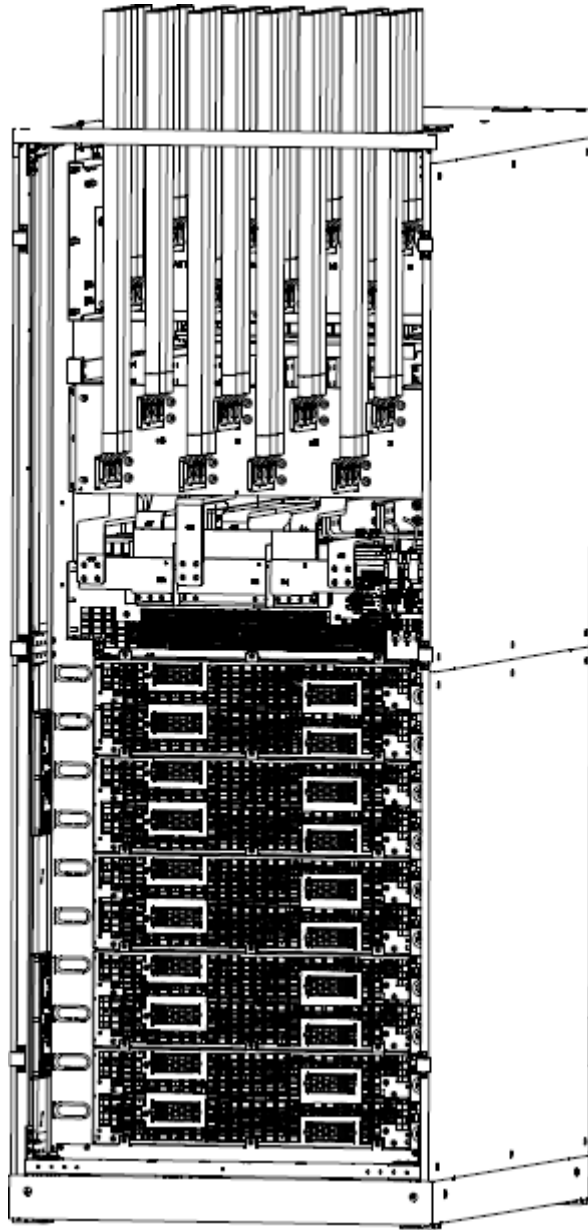
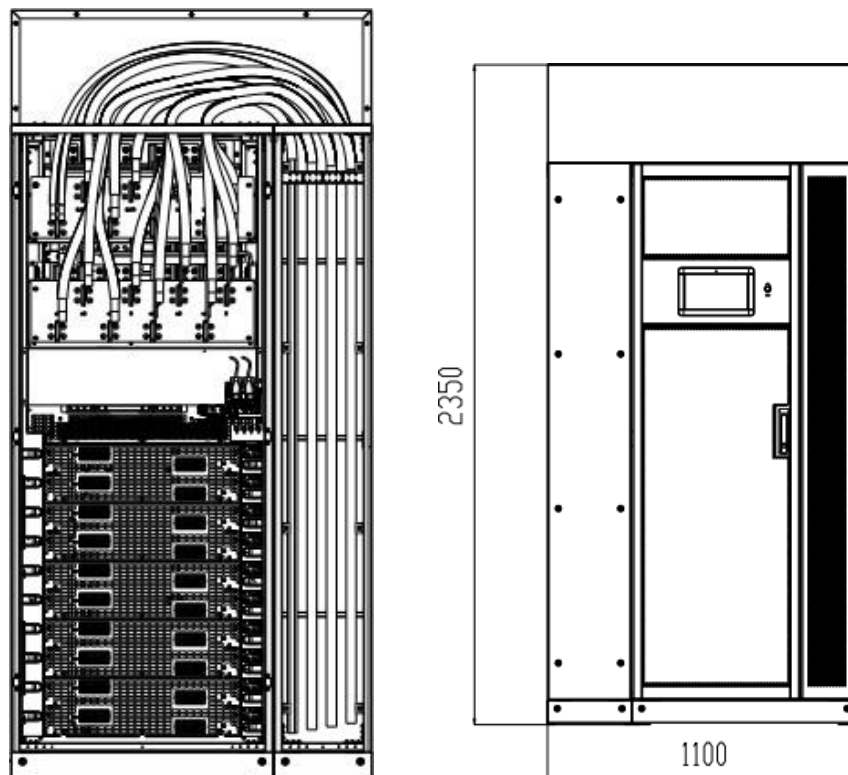

Figure 3-10 Diagram of Top Cable Entry
Figure 3-11 Diagram of bottom Cable Entry
The cabinet support enters from the top side. The cable entry is shown in Figure 3-10. If you need to enters from the bottom side, an bottom-entry cabinet is optional. The bottom-entry mode and size of the system are shown in Figure 3-11.
Step 4: Connect the AC main input cable to the input terminal (mA, mB, mC, N); Connect the AC bypass input cable to the bypass input terminal (bA, bB, bC, N); Connect the output cable to the output terminal (oA, oB, oC, N) as figure 3-10 or 3-11;